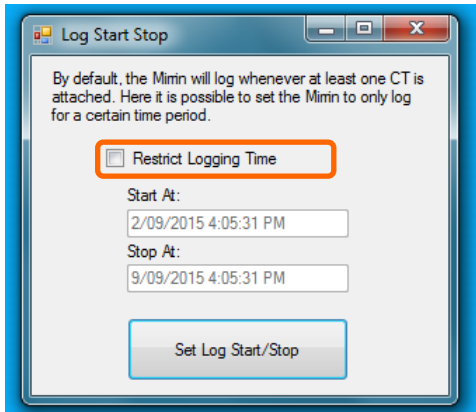

Figure 2.6.1
Step 1: Clicking the 'Set Log Start/Stop' button on the 'Status' window opens the window shown in figure 2.6.1 allowing the user to enter start and stop dates and times.